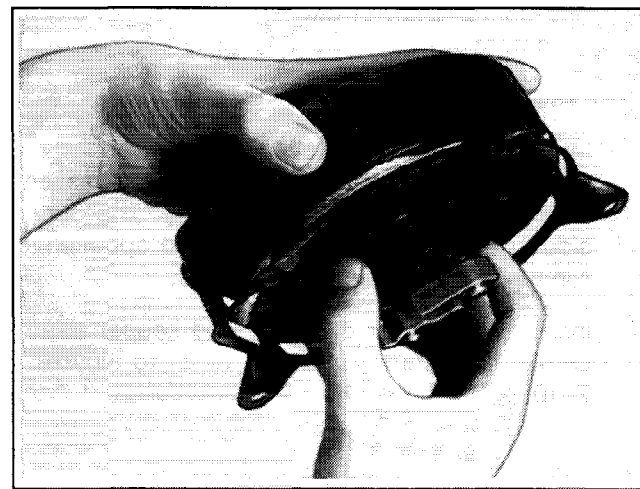

Figure 7-8. Removing Pulley From Housing.
9. Rotate the pulley slightly from side to side and **carefully** separate the pulley from the starter housing. Refer to Figure 7-8.